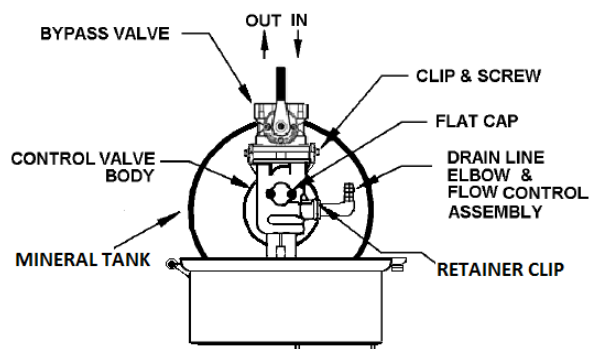

FIGURE 2: Top View of Control Valve
- STEP 6:** Use clips and screws provided and attach bypass valve to the inlet/outlet of the control valve. See Figure 2 below.